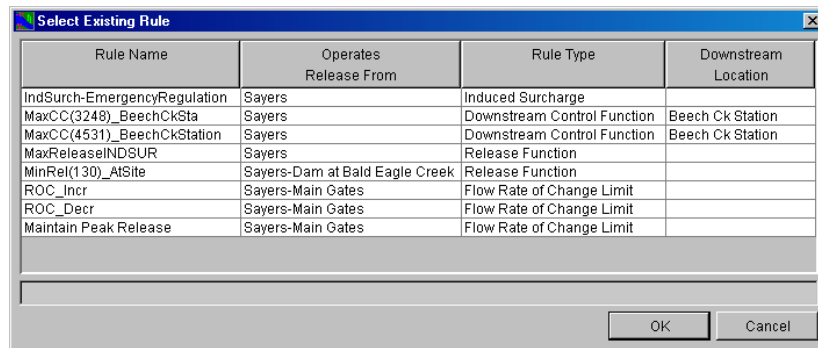

Figure 11.10 Select Existing Rule Dialog Box
2. Select **Use Existing** from the **Rule** menu of the Reservoir Editor or **Use Existing Rule** from the zone's shortcut menu. The **Select Existing Rule** dialog box will open (similar to Figure 11.10 which shows an example list of existing rules).